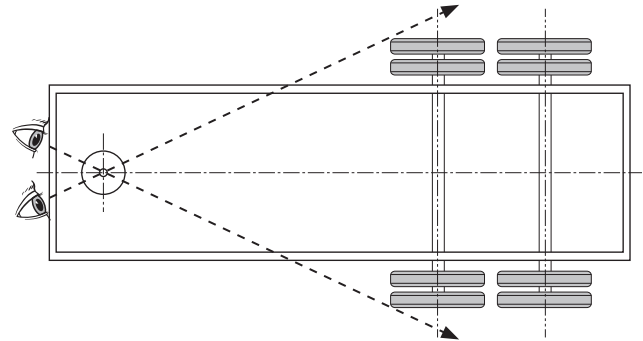

Figure 17: *Checking for measurement obstructions*
1. From a position at the front of the trailer (Figure 17), **sight** along a line under the trailer from the kingpin to each end of the front axle.